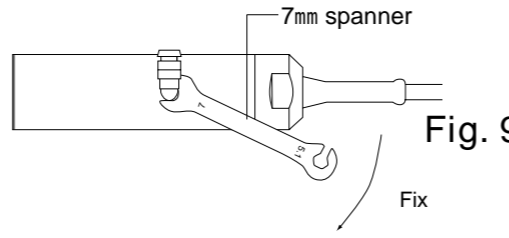

Fig. 9
- 2 Install the air joint (KJL-04-M5(SMC) ) with provided 7mm spanner wrench. (Fig. 9)